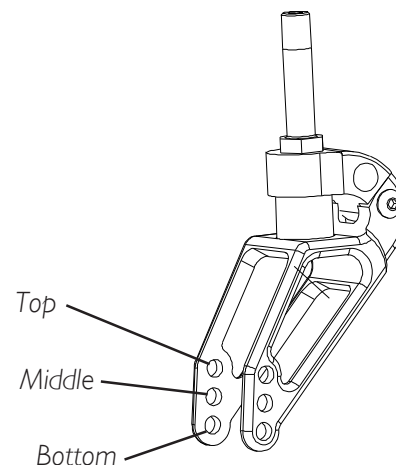

FIGURE 12 - FRONT SEAT-TO-FLOOR HEIGHT ADJUSTMENT
FRONT SEAT-TO-FLOOR HEIGHT ADJUSTMENT (FIGURE 12)
1. Refer to FIGURE 12 and the charts on the following pages to determine available front seat-to-floor heights for each wheelchair frame size.